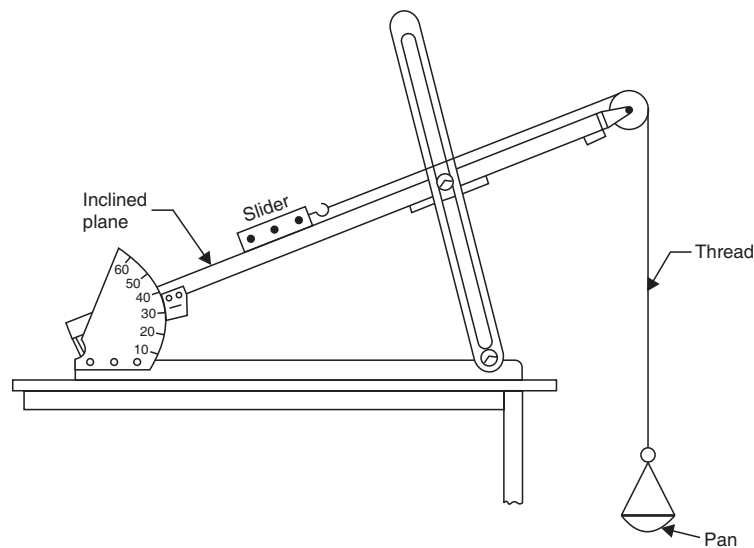

Fig. 5.1. Inclined plane apparatus
**Apparatus.** Inclined plane apparatus (Fig. 5.1), slider, weight box, pan, thread etc.